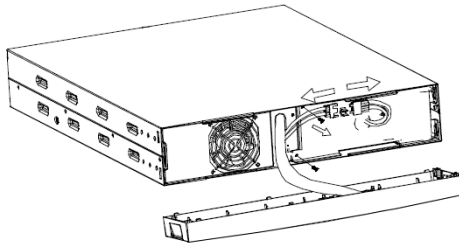

Figure 12: Disconnecting the battery plug connection
2. Disconnect the battery plug connection (see Figure 12).